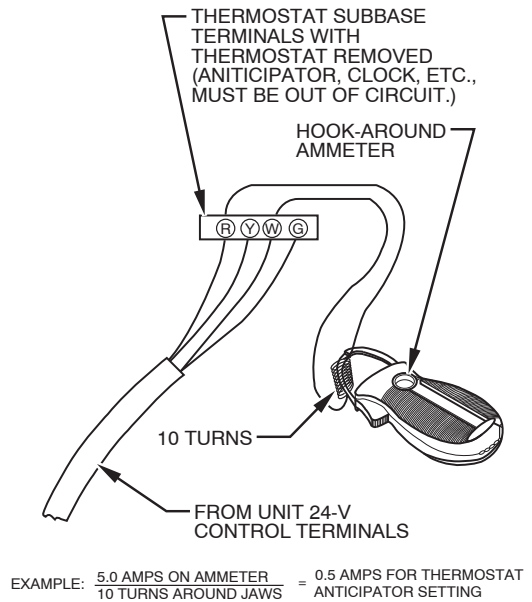

Fig. 42 – Amp. Draw Check with Ammeter
- (2.) Connect an amp. meter as shown in Fig. 42 across the R and W subbase terminals or R and W wires at wall.